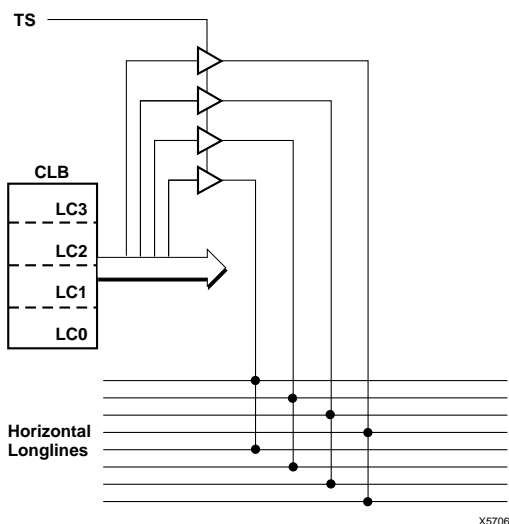

Figure 8: XC5200 3-State Buffer
The XC5200 family has four dedicated TBUFs per CLB. The four buffers are individually configurable through four configuration bits to operate as simple non-inverting buffers or in 3-state mode. When in 3-state mode the CLB's output enable (TS) control signal drives the enable to all four buffers (see Figure 8). Each TBUF can drive up to two horizontal Longlines.